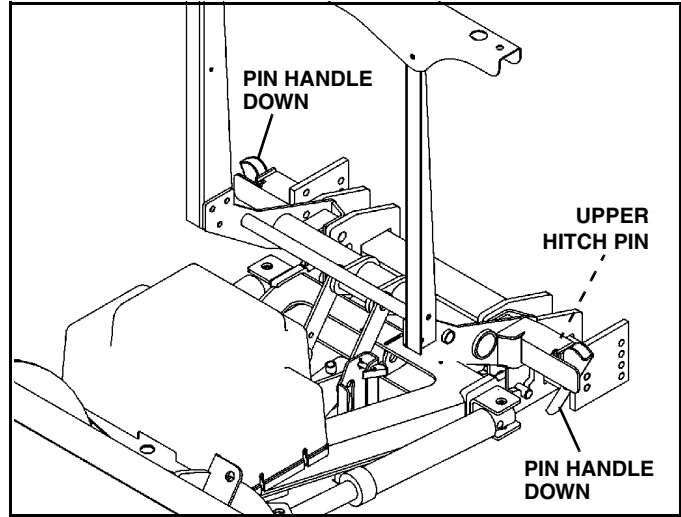

Figure 1-3
4. Put plow into float position by turning down pressure off. Rotate pin handles down to lock pins in place. (See Figure 1-3).